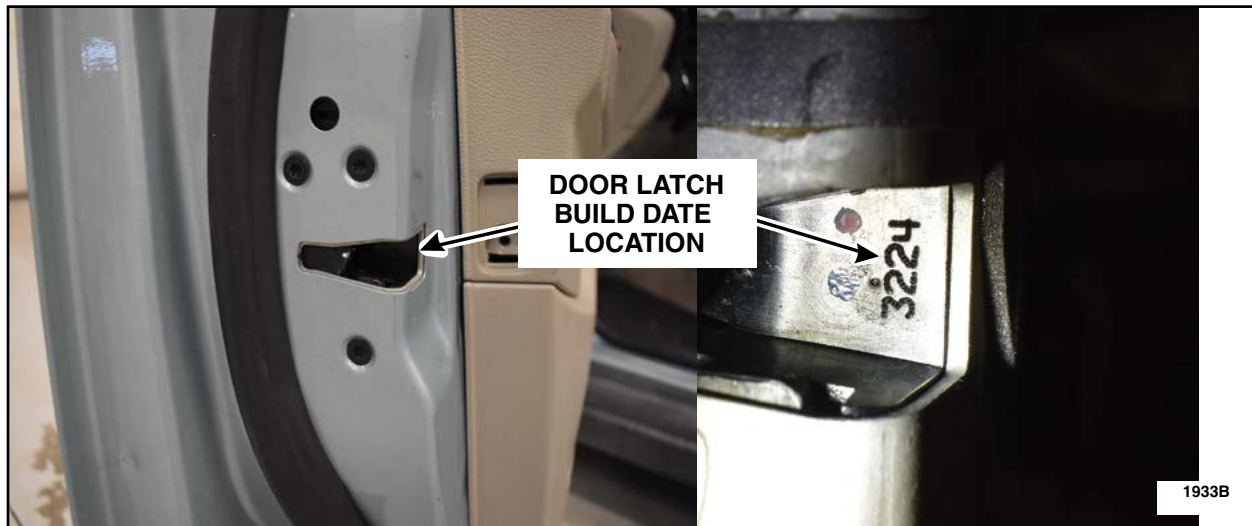

FIGURE 5
4. Once the new latches have been installed in the vehicle, record all four date codes of the new latches. Additionally, capture a picture of the date code of each new door latch (four pictures total) showing them installed in the vehicle. These pictures will need to be submitted on the SSSC web questionnaire. See Figure 5.